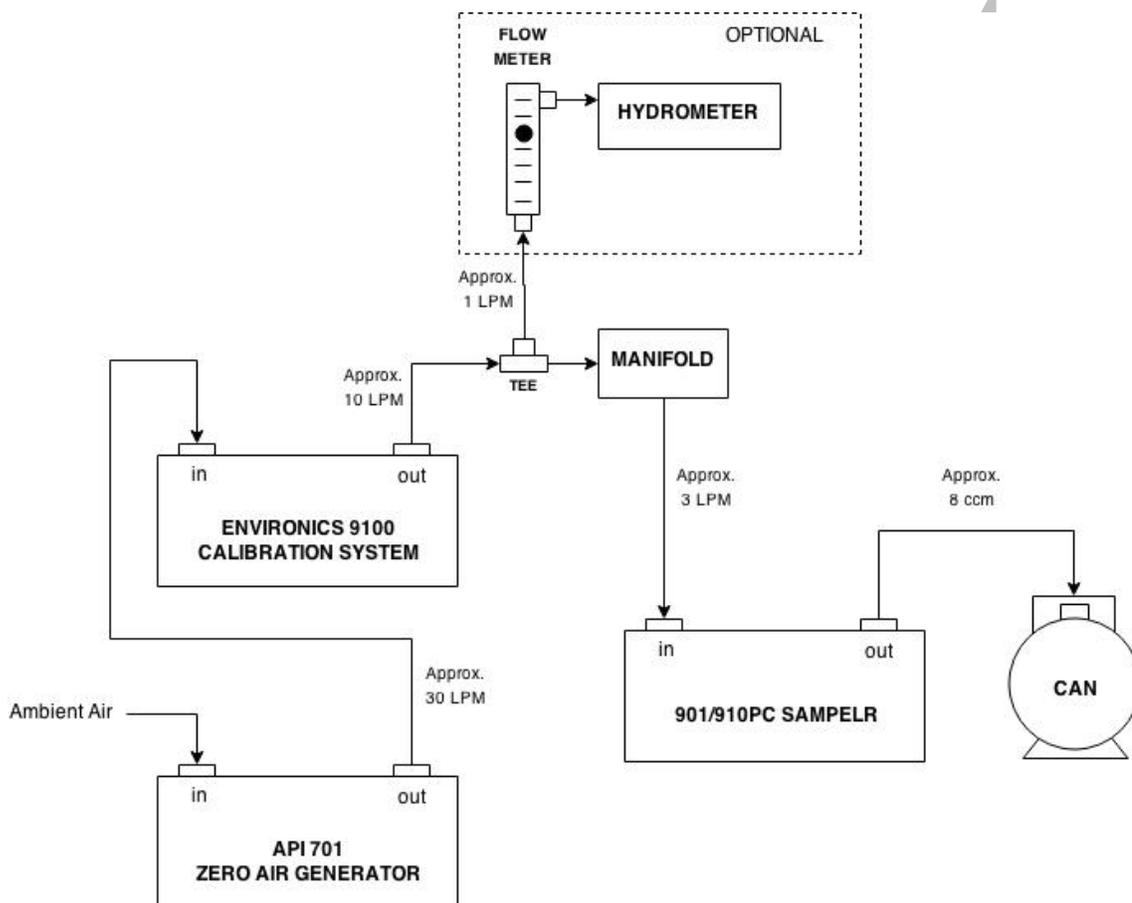

Figure 7.2 Purity Testing Equipment Setup Diagram
1. Obtain a clean evacuated SUMMA canister from the AQSB Laboratory, and connect the canister to the testing equipment as shown in figure 7.2.